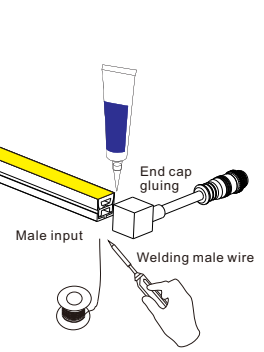

Figure 3
3. If there is no cable at the input end of cutting, and the male input cable must be welded (Fig. 3).